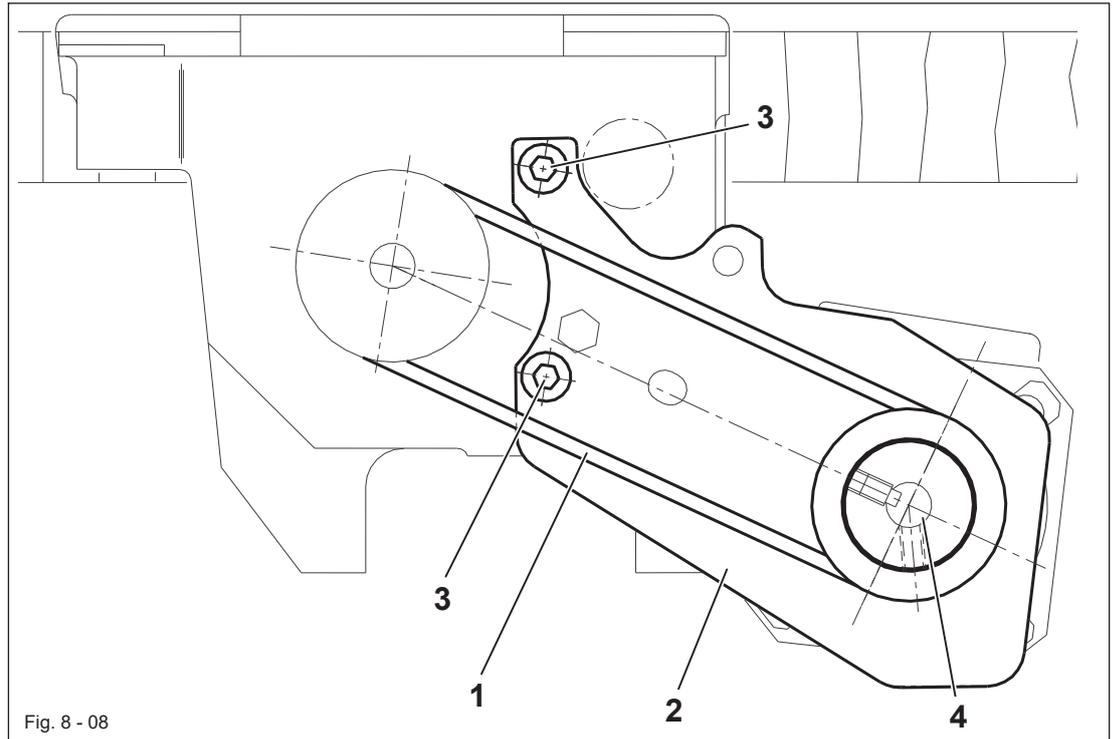

Fig. 8 - 08
- Lay on the toothed belt 1 while making sure that both the motor shaft 4 (Fig. 8 - 08) and the machine are not twisted.